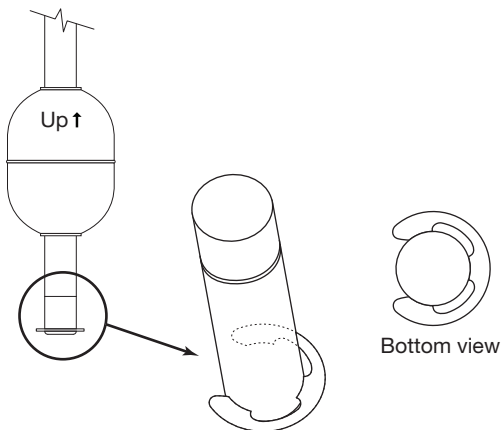

Figure 3
3. The float is held on the probe by a C-clip inserted into a groove machined into the tip of the probe. The float is attached or removed by removing and reinserting the C-clip. See Figure 3. To ensure proper float orientation, the float is marked "Up ↑".